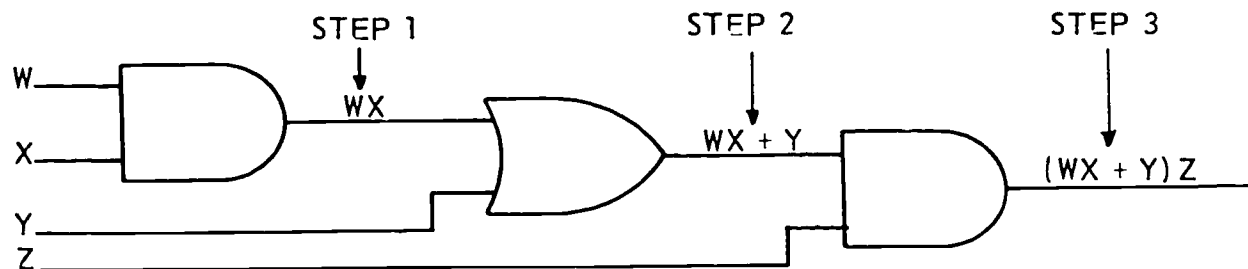

Figure 1-63. Grouping terms.
We can find the output expression for a logic diagram, begin at the left and find the output of each logic symbol (see fig. 1-63).
(1) To find the output expression for a logic diagram, begin at the left and find the output of each logic symbol (see fig. 1-63).
(2) If a logic symbol is at the extreme left of the diagram, its inputs are single letters (see fig. 1-63).